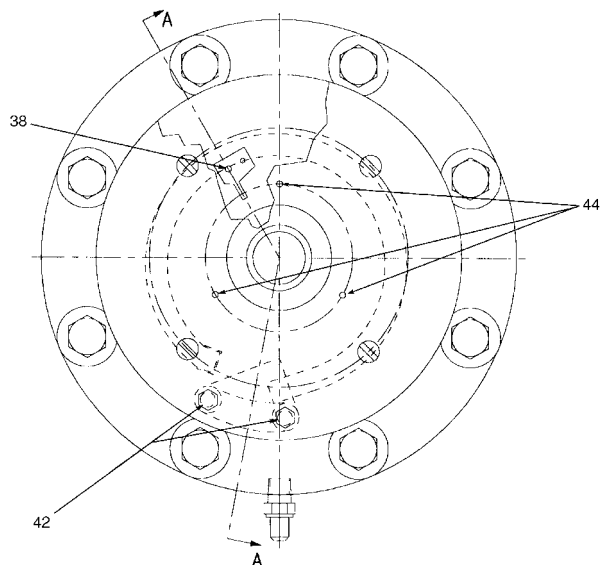

Fig. 36 — Contact Seal
Contact Seal Maintenance (Refer to Fig. 36) —
SEAL DISASSEMBLY (Fig. 36) — Contact seal disassembly and repair should be performed only by well qualified compressor maintenance personnel. These disassembly instructions are included only as a convenient reference for the authorized serviceman.
For ease of disassembly, refer to Fig. 36 while following these instructions.
6. Using a snap ring tool, install the snap ring (Item 16) in the groove on the end of the contact sleeve (Item 18), as shown in Fig. 36.
SEAL REASSEMBLY (Fig. 36) — Be sure that all gasket surfaces are clean and that all holes, including oil holes, are properly aligned between the gasket and mating flange. Coat the gasket with oil-graphite mixture to prevent sticking.